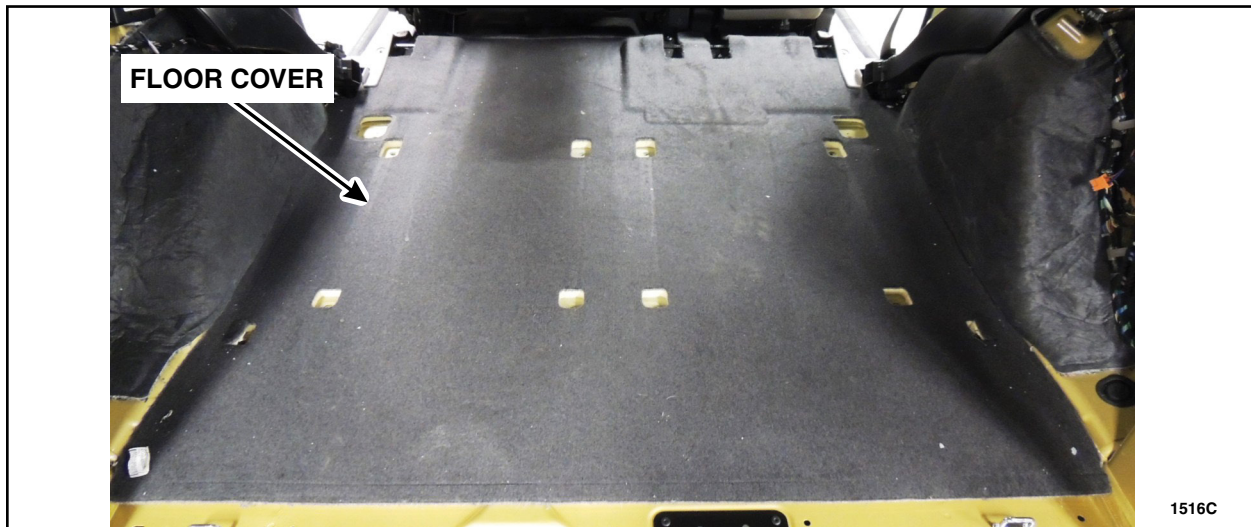

FIGURE 5
8. Remove the floor cover. See Figure 5.